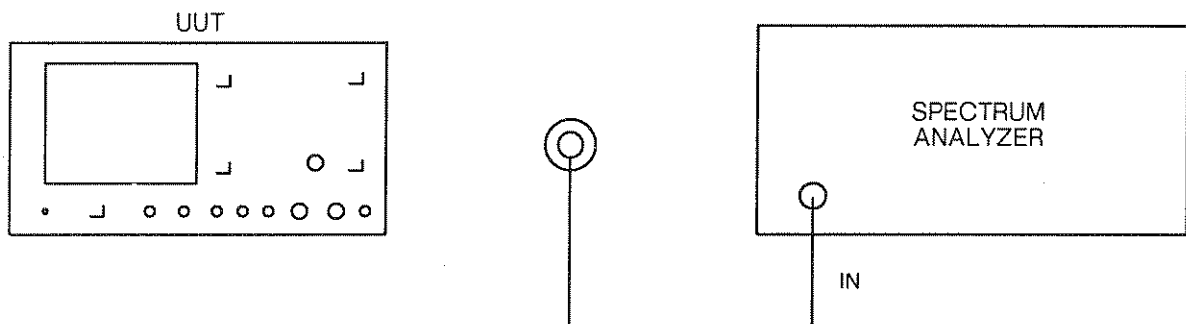

Fig. 5-24 Test equipment connections for RF generator RF leakage
- (1) Connect the equipment as shown in Fig. 5-24, with the 50 Ω load connected to the BNC output socket.